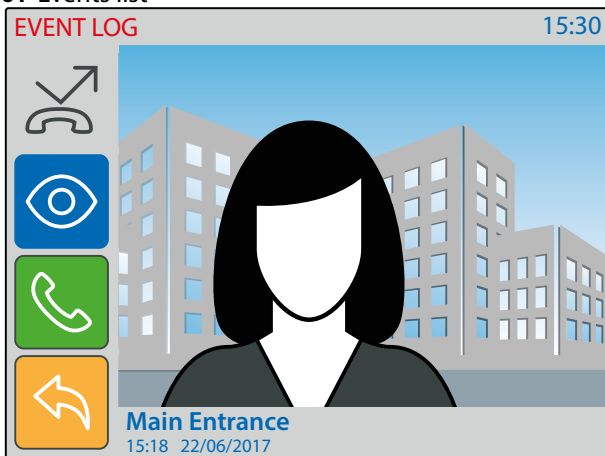
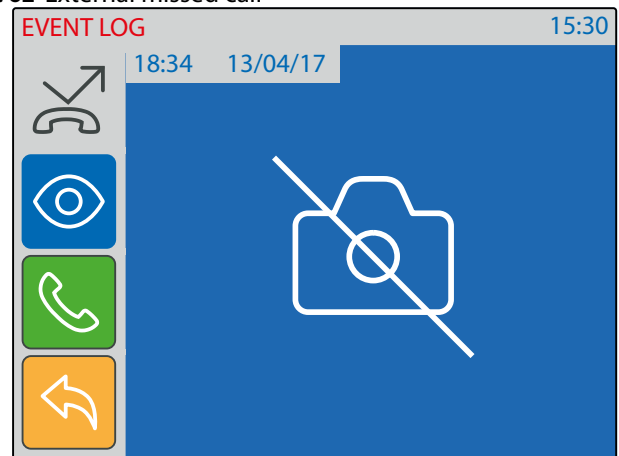

Fig. 63 External lost call picture stored
Fig. 64 Internal missed call
- You can tap and keep pressed the eye icon to see a picture showing the event source, date & time if it is an external communication (Fig. 63) or no picture (Fig. 64) in all other cases.